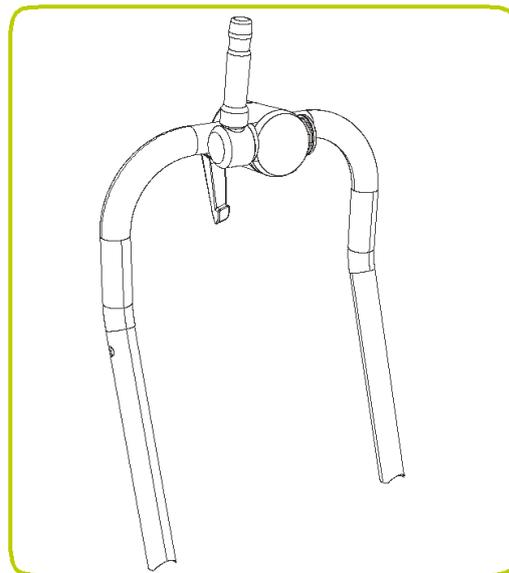

Figure 11.5 Installed pushrod clamp
8. The clamp should appear as shown in Figure 11.5.